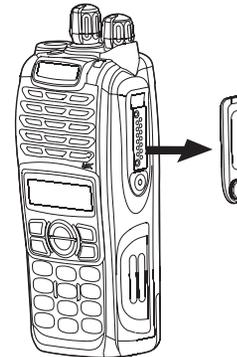

Fig.6
2. Remove the accessory cover. See figure 6.